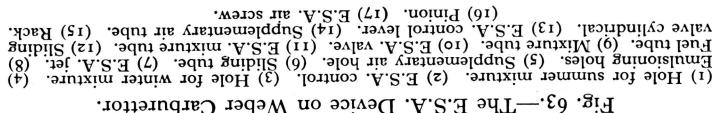

Fig. 63.—The E.S.A. Device on Weber Carburettor.
Fig. 63 shows how the fuel flowing from the bowl reaches this device through the tube (8), thence through the E.S.A. calibrated jet (7), the sliding tube (6), the summer hole (1) or the winter hole (3) of the E.S.A. control (2), the tubes (9), the valve (10), the tube (11), and finally reaches the carburettor throttle chamber below the butterfly valve.